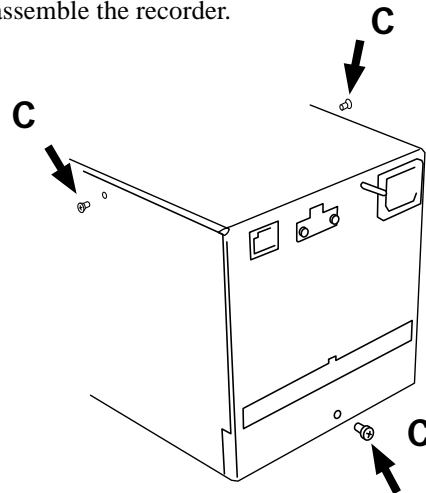

Figure 7.3.2b Release cover plate
3. Remove the three screws 'C' in figure 7.3.2b.